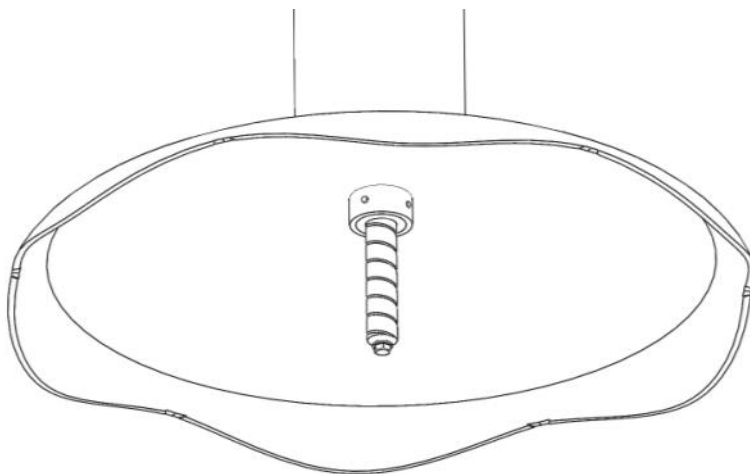

**Figure 3** — Assembly representation
After the piece (Figure 2) is completely fixed to the ceiling, place the thread of the rod (E) in the tube (D), tighten with the screws provided, as shown in figure 3. Check that the set is properly placed and properly tight.